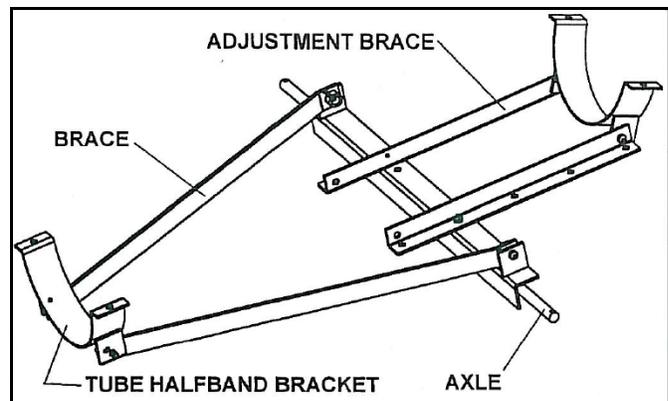

Figure 3.5
1. Attach the 2 braces to inside of each lug on the axle using two 7/16" x 1" bolts and locknuts (see Figure 3.5).
- ➔ 2. Mount adjustment braces on top of axle with two 7/16" x 1" bolts and locknuts. Use the set of holes in adjustment braces best suited for desired tube angle. **8" tube:** inner set of holes on axles, **10" tube:** middle set, and **13" tube:** outer set. Mount tube halfband bracket to adjustment braces as shown (see Figure 3.5) with two 7/16" x 1" bolts and locknuts.